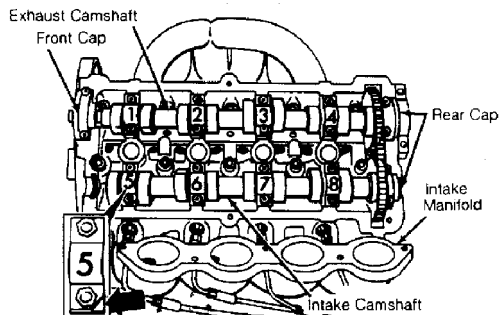

Fig. 12: 16-Valve Camshaft Bearing Caps
2) Remove intake camshaft bearing cap Nos. 5, 7 and rear evenly a little at a time. See Fig. 12. Loosen remaining intake camshaft bearing caps evenly a little at a time. Remove exhaust camshaft bearing cap Nos. 1, 3, front and rear evenly a little at a time. Loosen remaining exhaust camshaft bearing caps evenly a little at a time. Remove loosened caps. Lift camshafts out of cylinder head together.
2) Install intake camshaft bearing cap Nos. 6 and 8 and tighten evenly a little at a time. See Fig. 12. Repeat procedure for remaining intake camshaft bearing caps. Install exhaust bearing cap Nos. 2 and 4 and tighten evenly a little at a time. Repeat procedure for remaining exhaust bearing caps. To complete installation, reverse removal procedure. Allow 30 minutes before starting engine for lifters to bleed down.